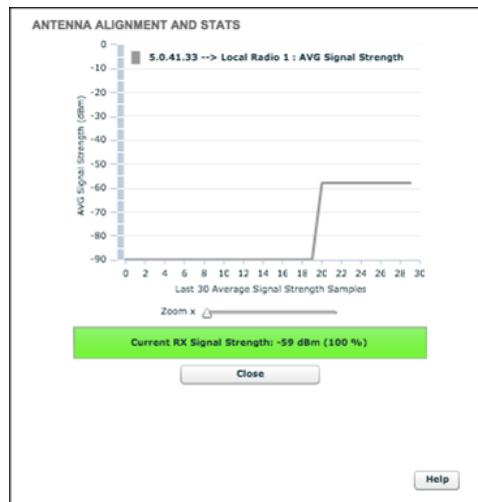

Figure 28. Antenna alignment and stats tool
- The **ANTENNA ALIGNMENT AND STATS** tool will be shown (Figure 28 (page 68)).